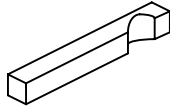
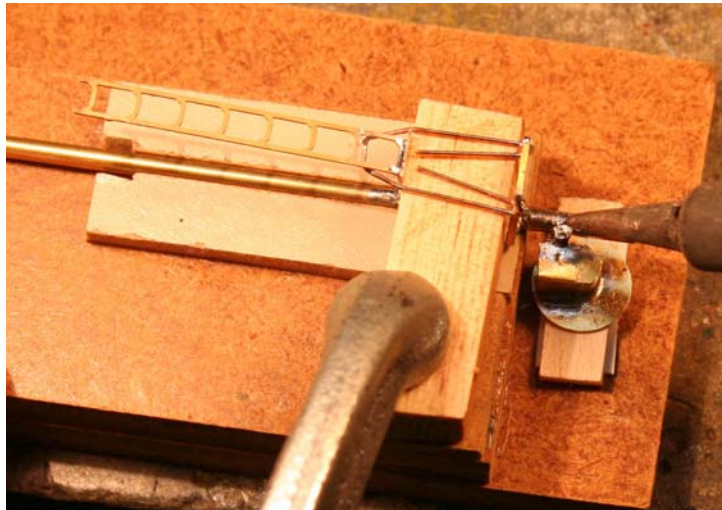

Figure 8 Solid Mounting Arm
Figure 18: Soldering the Target to the Mast
1. Form a piece of 1/16" square brass tubing as shown in Figure 8. and solder it to the housing on the back of the target assembly. This looks a little more prototypical.
Complete the target assembly by soldering a mounting bracket to the side of the light housing. Normally the target is offset to the left (facing from the front), but in tight situations you might want to offset it to the right. You can make the bracket as shown in Figures 8 or 9. The square tubing looks more prototypical, but the strip is easier to attach. Attach the target by placing the mast and the target assemblies into the jig. I find that with tubing bracket it is necessary to shim the target face upward so that bracket mates properly with the mast. Solder when it is correctly aligned, Figure 18.